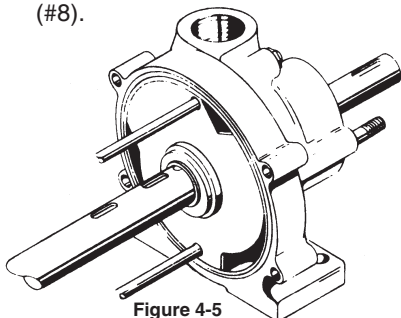

Figure 4-5
5. Now slide this entire assembly of shaft, impeller, and diffuser onto the guide rods (#18) and into the cover (#1IN). (refer to figure 4-5) The diffuser should fit flush. The original diffuser vane orientation is preferred, but either guide rod hole may be up. The chamfer around these holes are for two "O" rings (#8).